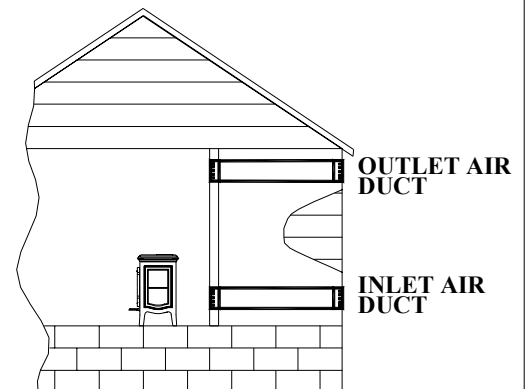

FIGURE 9
C. Where communicating with the outdoors through horizontal ducts, each opening shall have a minimum free area of 1 square inch per 2,000 BTU/hr (11 cm² / kW) of total input rating of all equipment in the enclosure (See Figure 9).